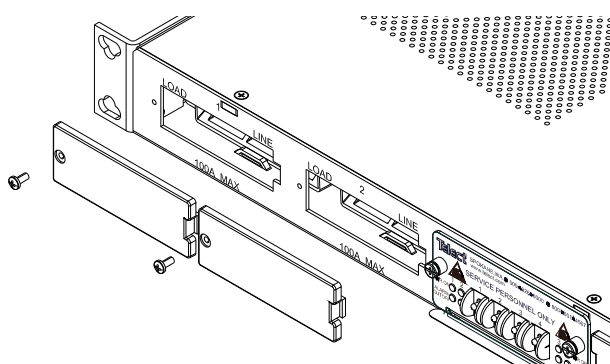

Figure 2 - Removing Blank Covers
1. As shown in Figure 2, remove the blank cover(s) over the intended fuse holder position(s). The unit can operate with one, two, three, or four fuse positions occupied.